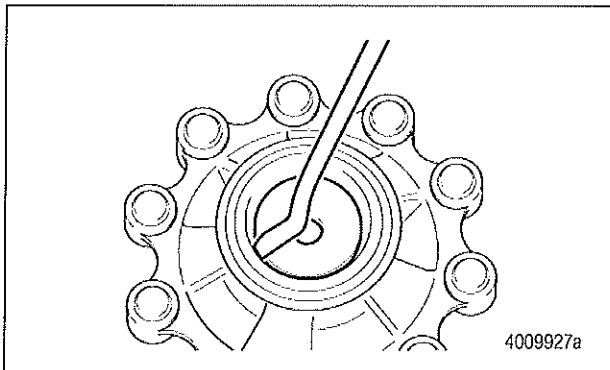

Figure 9
12. Remove the oil seal. This seal must be discarded. Never reuse an oil seal after the hub has been dismantled from the axle. Figure 9.